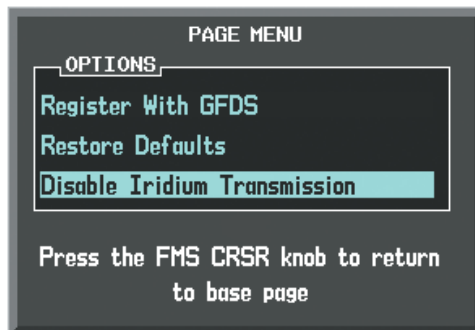

Figure 8-77 Select Disable Iridium Transmission
- 4) Press the **MENU** Key. The Page Menu window is now displayed as seen in Figure 8-77.